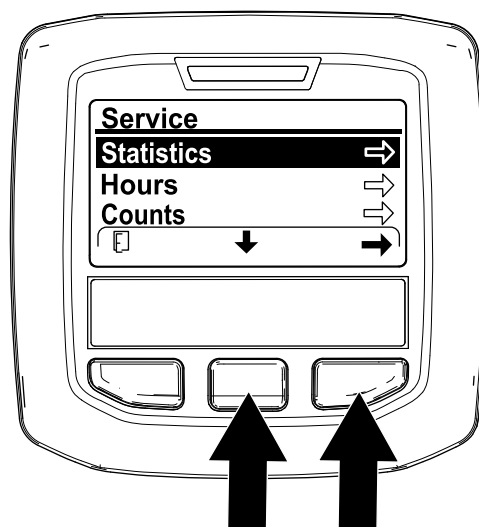

Figure 104
5. In the SERVICE screen, press the center InfoCenter button until the STATISTICS option is selected, and press the right button (Figure 104).